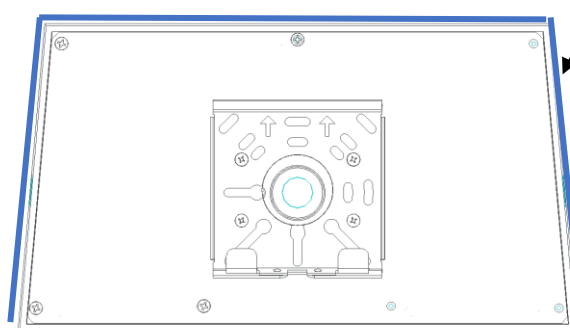

Figure 15
7. Apply caulk between the wall and SBB (Figure 15).